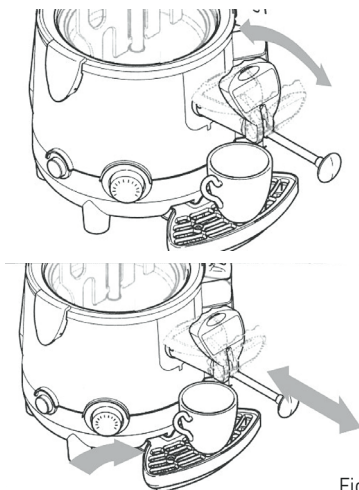

Fig. 1
- If the hot chocolate is passing too low, it is advisable to keep the rod pulled out at the maximum position; any clogging in the dispensino line may be removed by sliding the rod back and forth while keeping the machine, as shown in the Fig.1